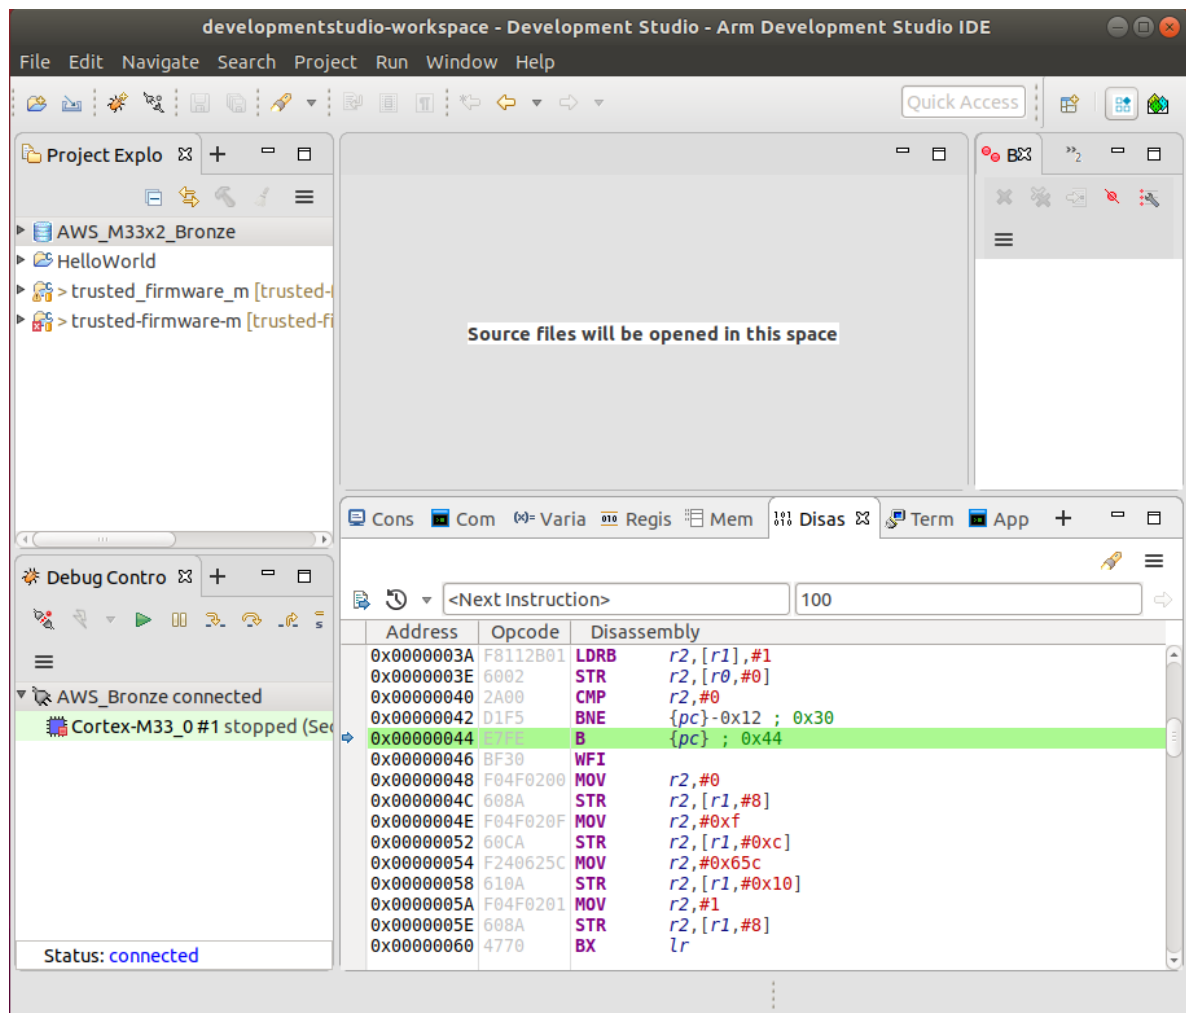

Figure 11 Connected to target on AWS FPGA cloud
4. The debug connection with the target on AWS FPGA cloud is as shown in the Figure 11